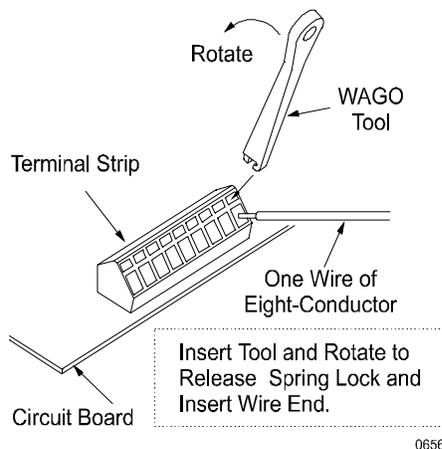

Figure 9: Terminal Connection
- Locate the WAGO Tool that is taped to the relay on the circuit board in each Processor. Use this tool to depress the spring lock for the individual wire connections to the terminal strip. (See Figure 9:)